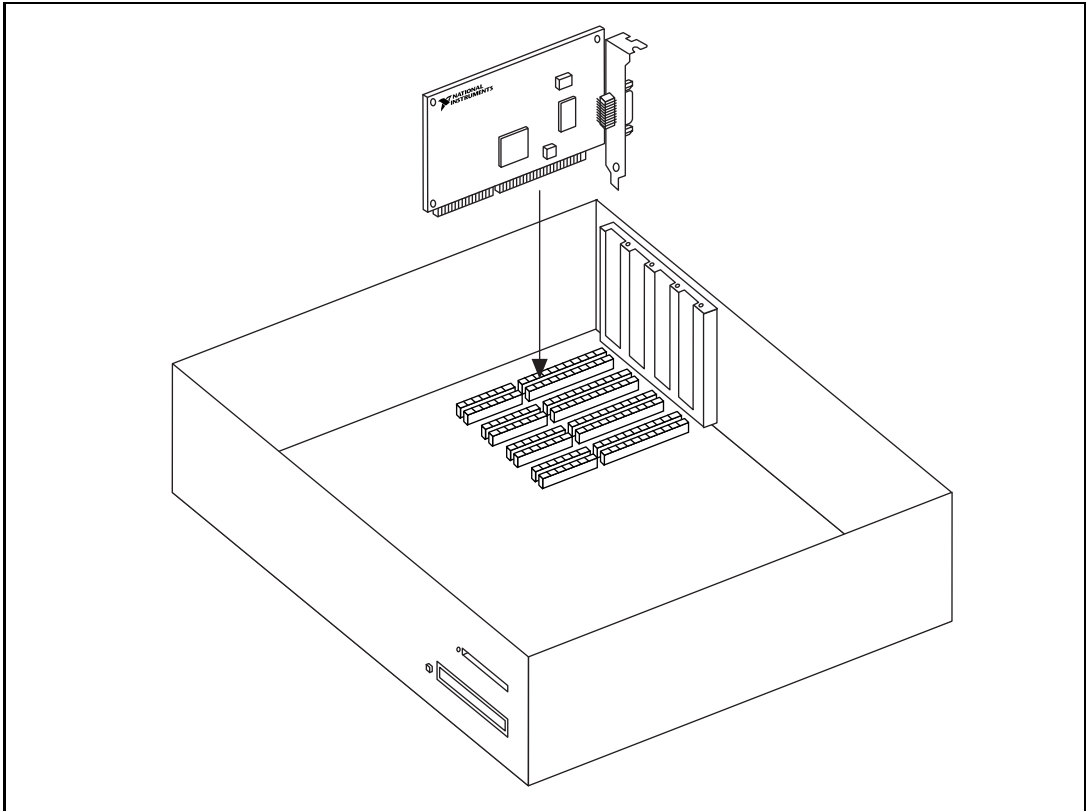

Figure 2-1. Installing the GPIB Board
5. Insert the GPIB board into the slot with the GPIB connector sticking out of the opening on the back panel, as shown in Figure 2-1. It might be a tight fit, but do not force the board into place.